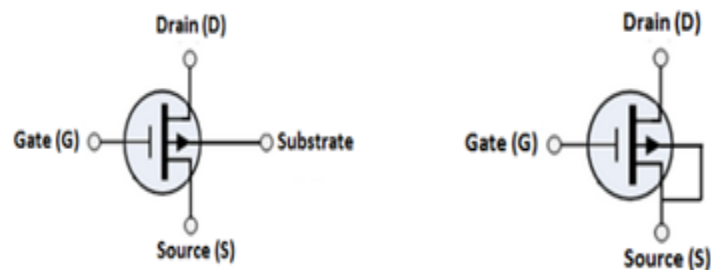

Fig. 4.20 Symbol for p-channel D-MOSFET
- The symbol for p-channel D-MOSFET is shown in Fig.4.20.